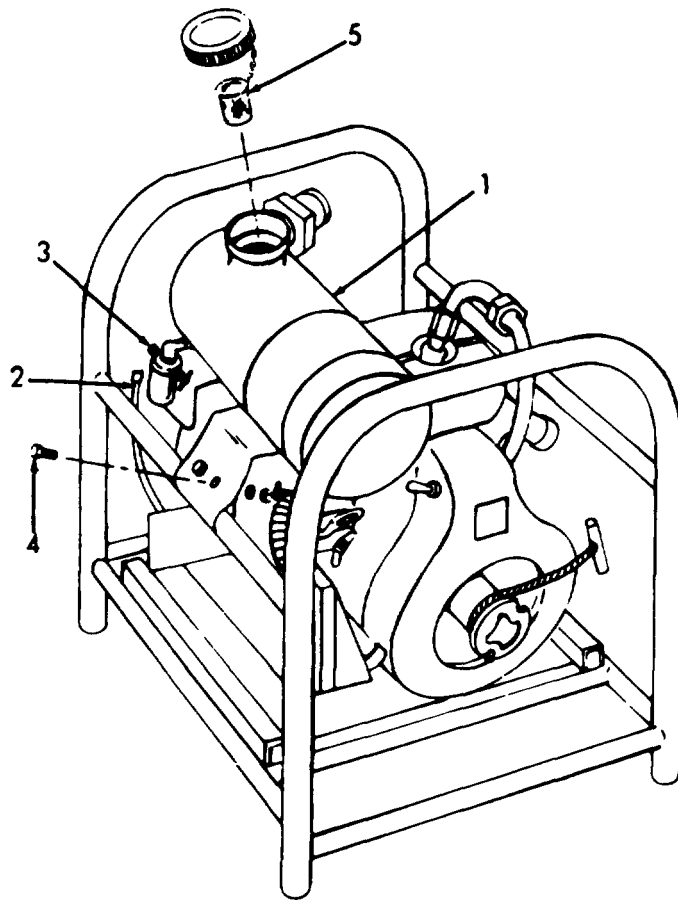

Figure 4-1. Fuel Tank Removal.
- (1) Refer to figure 4-1. Drain fuel tank (1) into a suitable container.
- (2) Disconnect fuel line (2) at fuel filter (3).
- (3) Remove screws (4) that attach fuel tank to bracket.
- (4) Remove fuel tank cap and strainer (5).